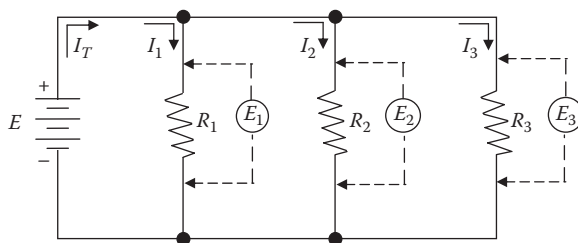

FIGURE 10.21 Parallel circuit.
The behavior of current in a parallel circuit is best illustrated by example (see Figure 10.21). The resistors R_1 , R_2 , and R_3 are in parallel with each other and with the battery. Each parallel path is then a branch with its own individual current. When the total current (I_T) leaves the voltage source (E), part I_1 of current I_T will flow through R_1 , part I_2 will flow through R_2 , and I_3 through R_3 . The branch currents I_1 , I_2 , and I_3 can be different; however, if a voltmeter (used for measuring the voltage of a circuit) is connected across R_1 , R_2 , and R_3 , then the respective voltages E_1 , E_2 , and E_3 will be equal. Therefore,